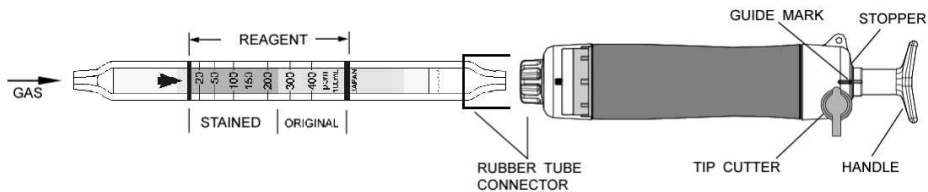

Fig.1
- ② Insert the detector tube into the aspirating pump securely as shown in Fig.1. (Arrow mark shall point to the pump.)
- ③ Align the guide marks on the shaft and stopper of the aspirating pump.
- ④ Pull the pump handle at a full stroke until it locks and wait for 1.5 minutes or until the completion of sampling is confirmed with the flow indicator of the pump. (See descriptions about the flow indicator in the instruction manual of the pump.)
- ⑤ On completion of sampling, read the scale at the maximum point of the stained layer.
- ⑥ In case that the concentration is less than 20 ppm, push the handle without removing the detector tube from the inlet, and air in the pump will be discharged perfectly. Then repeat step ③~④ twice more. And multiply the reading value by 1/4.